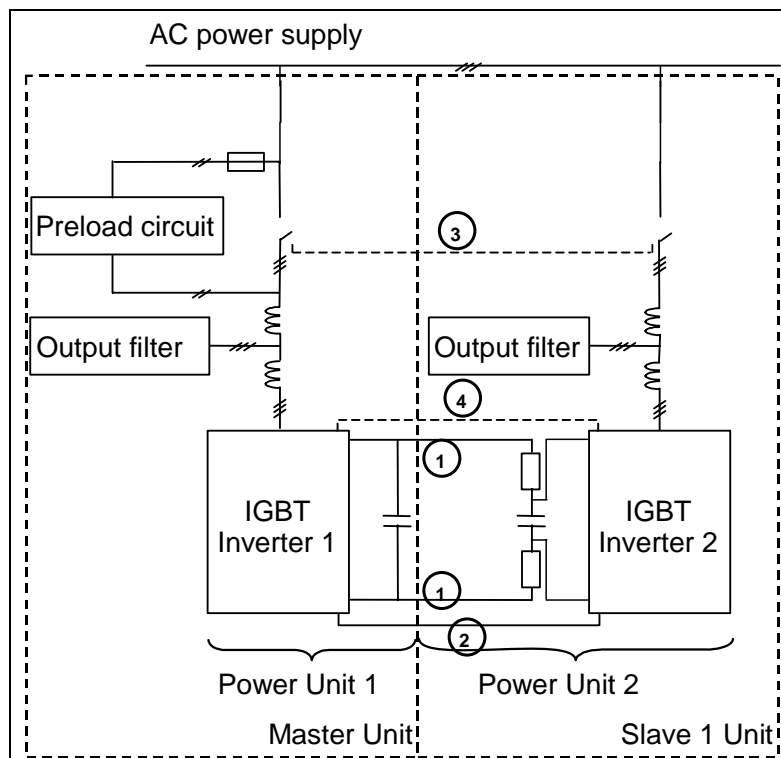

Figure 7.28. Overview of the connections to be made between two filter units
Figure 7.28 shows schematically which interconnections have to be made between two filter units.
Interconnect the DC bus link between the units (Figure 7.28. item 1)
Interconnect the earth points of the different units (Cf. Figure 7.28. item 2) and earth the new cubicle individually. Refer to Section 7.4. for more information on this topic.
Interconnect the digital control connection flat cable (Cf. Figure 7.28. item 3)